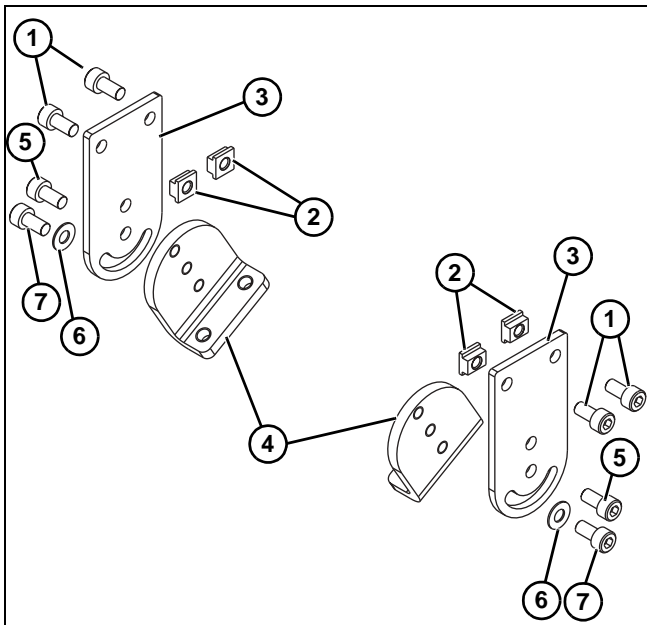

Figure 6
1. Locate pivoting brackets. Exploded view shown in Figure 6.
2. Remove screws (**Figure 6, item 1**) and T-bars (**Figure 6, item 2**) from flat mounting brackets (**Figure 6, item 3**).
3. Install angled mounting brackets (**Figure 6, item 4**) onto flat mounting brackets (**Figure 6, item 3**) on top end with screws (**Figure 6, item 5**). On bottom, install washer (**Figure 6, item 6**) with screw (**Figure 6, item 7**).